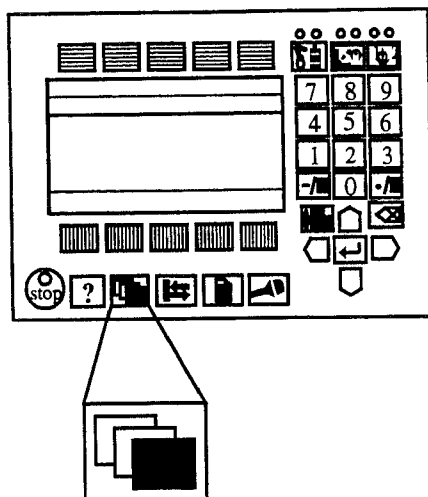

Figure 22 The Misc. window key from which the Service window can be chosen.
1. Press the **Misc.** window key (see Figure 22).